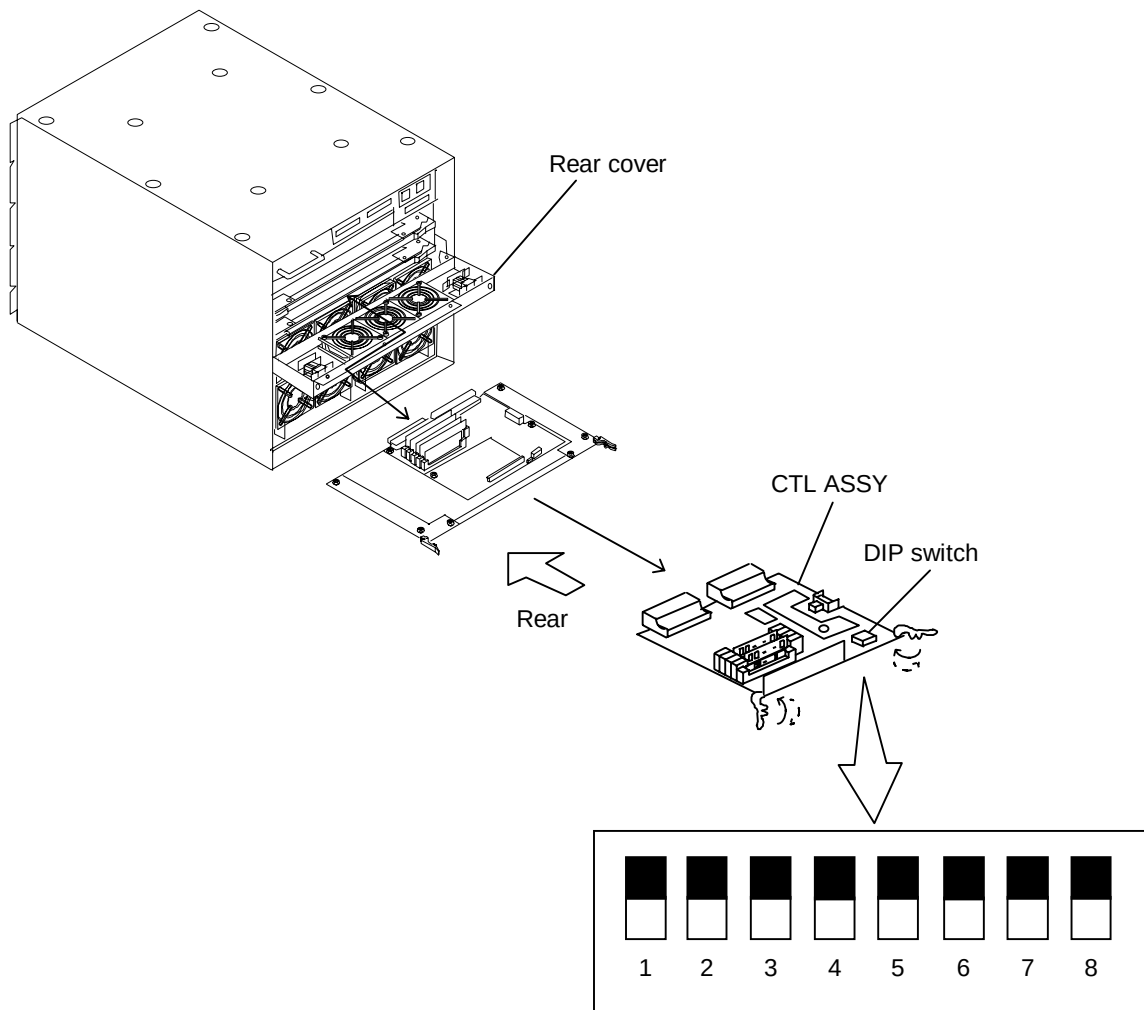

Figure 2.6.1 Installing the CTL ASSY
- (3) Open rear cover.
- (4) Install a CACHE ASSY in the additional CTL ASSY. (Mount a CACHE ASSY of the same capacity in the same corresponding slot of the optional CTL ASSY as those of the already installed CTL ASSY respectively as shown on RW-OPTION0180.)
- (5) Insert the CTL ASSY in a predetermined position with the right and left levers opened. Push the right and left levers in the arrow-marked erection (→) at the same time. (See Figure 2.6.1.)